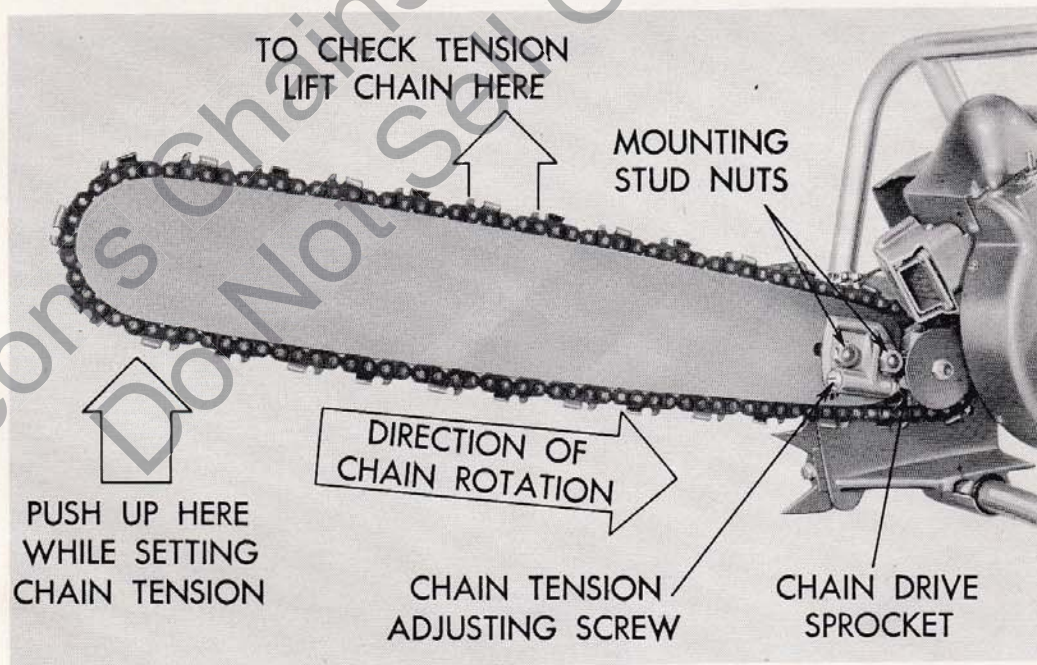

Figure 2—Assembling Guide Bar and Chain
b. Assembling the Unit (See Figure 2)
(1) Remove the two $\frac{3}{8}$ -16 hex nuts and lockwashers and lift the chain tension device from the mounting studs. LEAVE THE GUIDE BAR SHIM ON THE STUDS.
- (2) Put the guide bar and chain tension device on the studs. Slide bar until tension device pin drops into the hole in the guide bar. Then put the washers and nuts back on the studs, but *tighten only enough to keep the pin in the hole.*
- (3) Turn the chain tension adjusting screw counterclockwise to move bar toward sprocket for chain assembly.
- (4) The chain must be assembled with its cutters facing in the direction of rotation. (See figure 2.) Be sure chain and sprocket are of equal pitch. Slip chain over the drive sprocket and feed the chain into the guide bar groove.
The chain drive sprocket (See Figure 2) should be inspected from time to time. If it is badly worn it must be replaced. Whenever a *new chain* is installed it is especially important that the chain drive sprocket be in good condition or the new chain might be damaged. Be sure the sprocket and chain are of equal pitch.